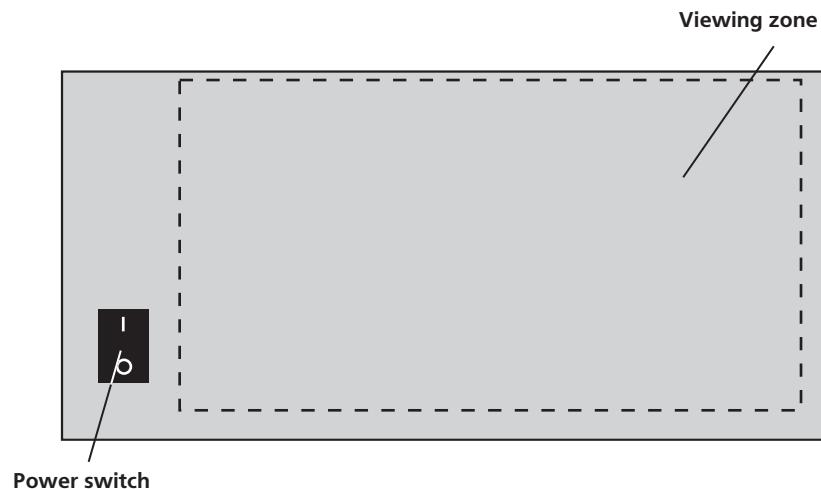

Fig. 2
1. Connect the detector to the wall outlet (220V, 50 Hz). Switch the detector on with the Power switch on the front panel (fig. 1, pos. 1) – the viewing zone (fig. 2) lightens blue.
2. Place one or several banknotes at the front detector panel within the viewing zone (fig. 2).